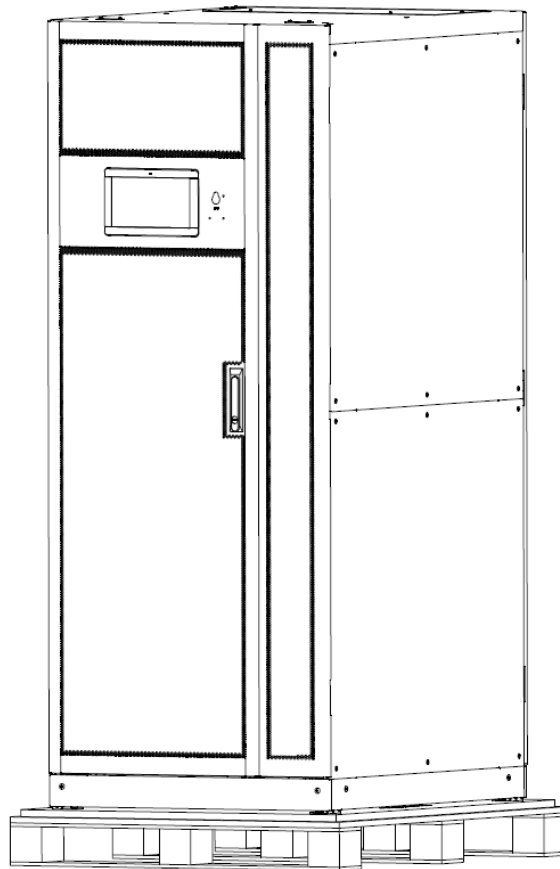

Figure 3-5 Remove the protective foam
Step 4: Remove the protective foam around the cabinet as shown in Figure 3-5: